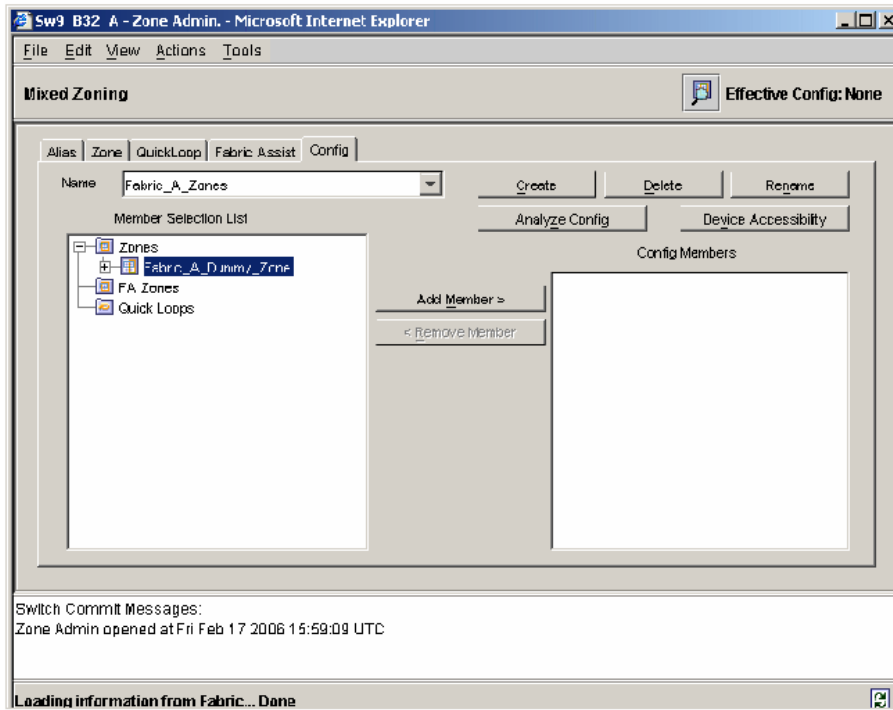

Figure 5-40 Creating a new zone config
- Click the **Config** tab (Figure 5-40 on page 99) and create a new Config titled Fabric_A_Zones (or B).
9. Expand the Zones folder (Figure 5-40) on left side of window, highlight the dummy zone (Fabric_A_Dummy_Zone), and click **Add Member**.